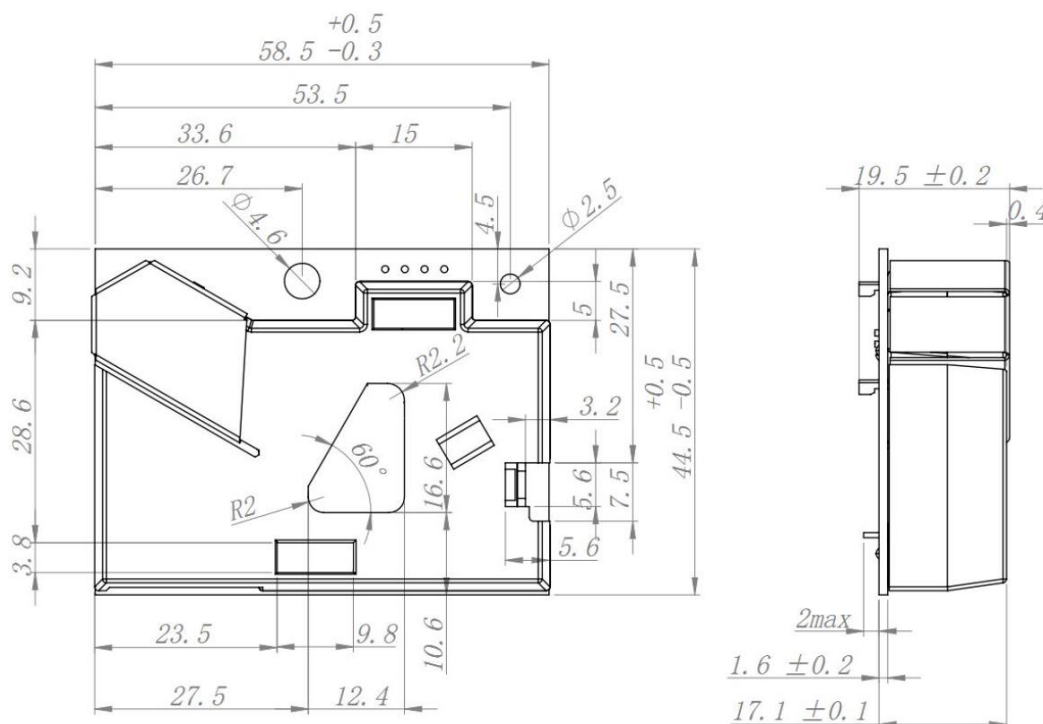

Fig 1
1.3. To avoid light. Dust sensor uses a specific wavelength light LED and visible light cut off the photoelectric sensor to detect dust particles, external light radiation will affect the dust sensor optical signal, it is recommended to use the sponge cover dust sensor center triangle hole (shown in Figure 1), do not block Sensor inlet and outlet.